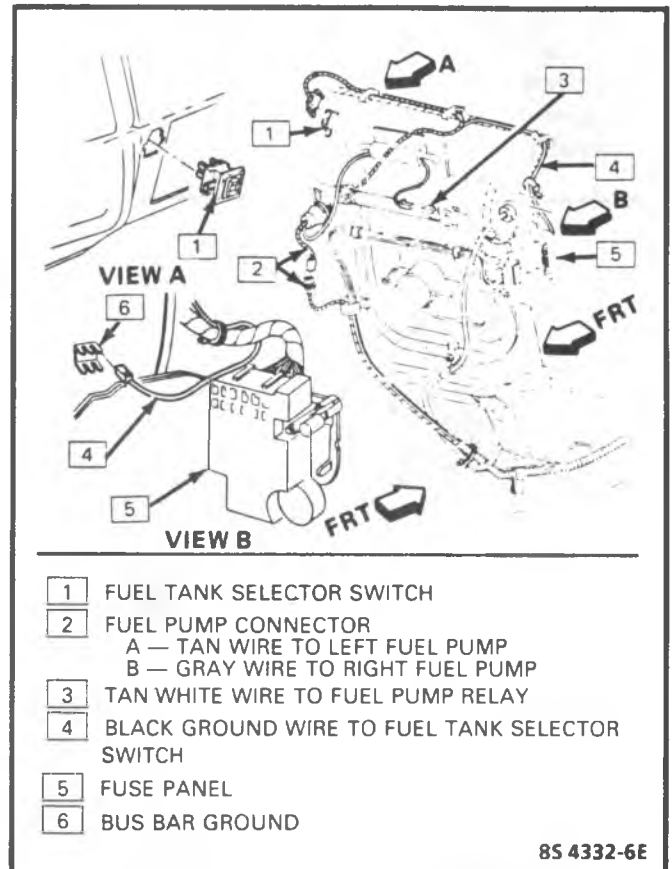

Figure 3-13 - Fuel Tank Selector Switch
2. If neither pump will run, the contacts inside the relay or fuel tank selector switch may be inoperative. Check single connector (Figure 3-13) tan/white wire to the fuel pump relay on the cowl. Check the two terminal connector (Figure 3-13) tan and gray wire to the fuel pumps.
1. Disconnect fuel pump connector (Figure 3-13).